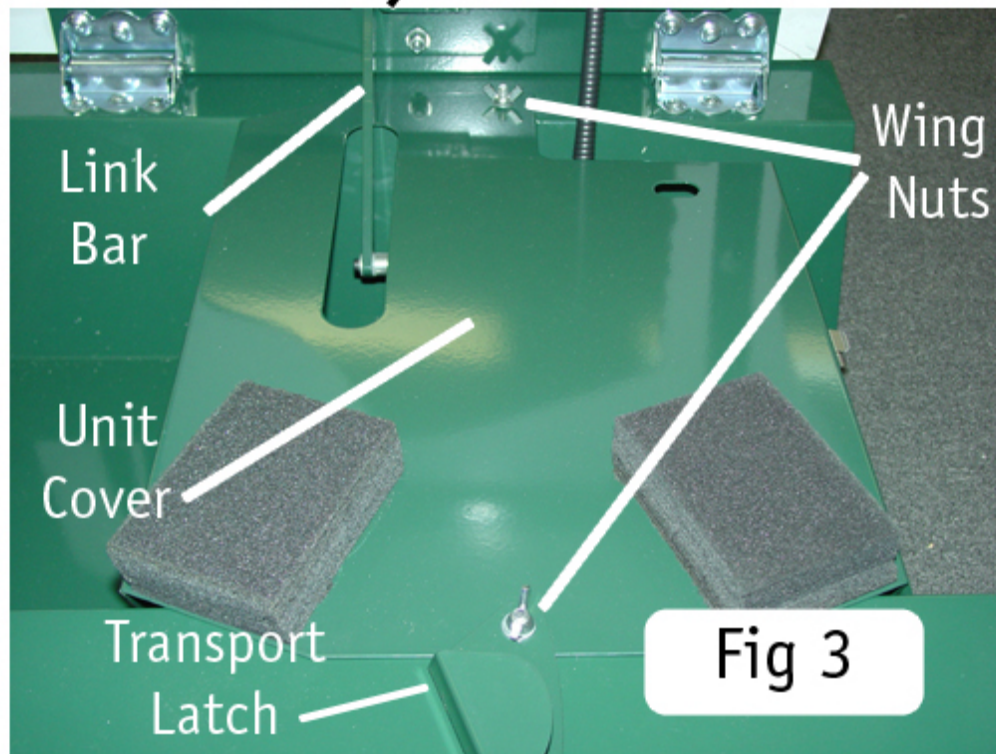

Figure 3: Unit with dog silhouette up
3. Match the Transmitter and Receiver (With the Transport Latch disengaged, see Fig 3 below)
Link Bar must be unattached from dog silhouette (See Figure 3) to completely remove unit cover.
- First remove unit cover and reattach the link bar to dog silhouette see Fig 3.